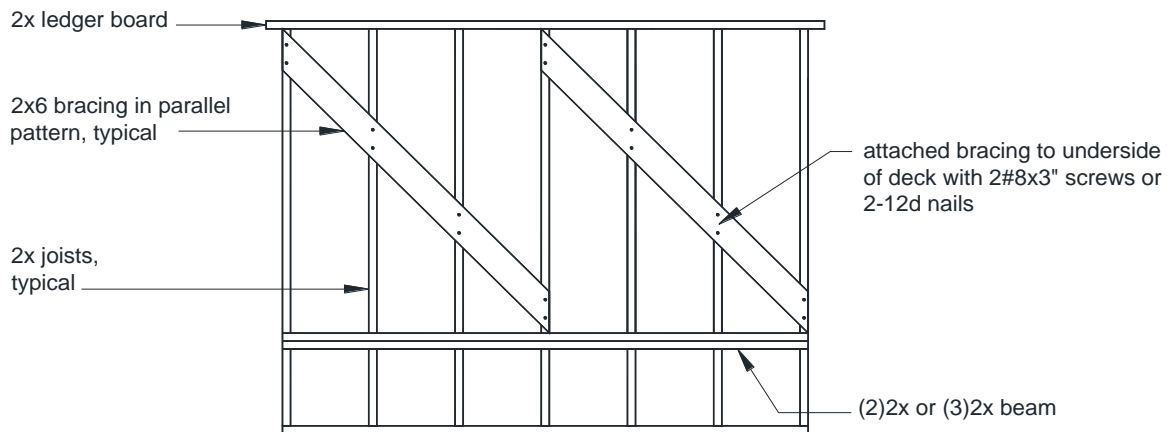
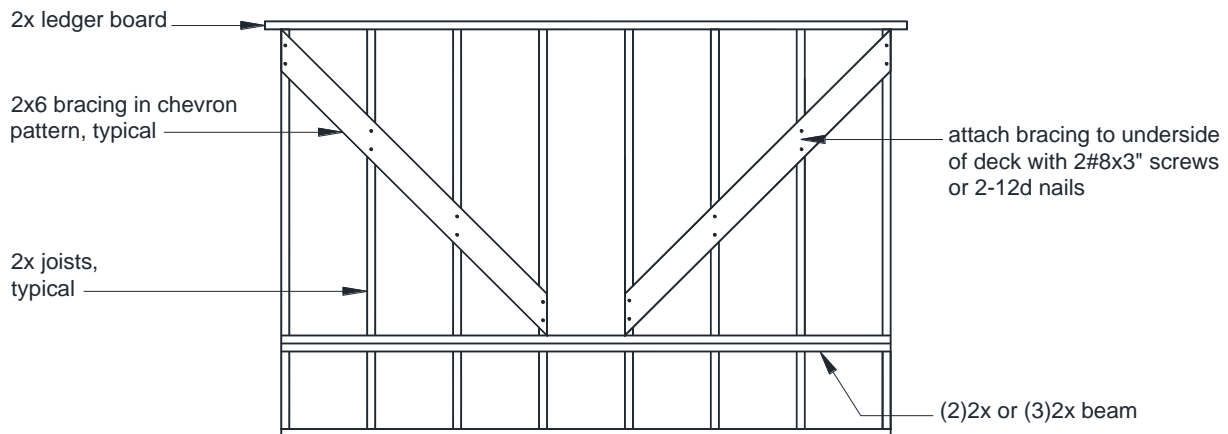

FIGURE 2: HORIZONTAL BRACING IN A PARALLEL PATTERN
FIGURE 3: HORIZONTAL BRACING IN A CHEVRON PATTERN
- Place bracing in a parallel pattern per FIGURE 2 or in a chevron pattern per FIGURE 3.
- Per FIGURE 3, bracing shall not attach to the same joist at the point of the chevron.